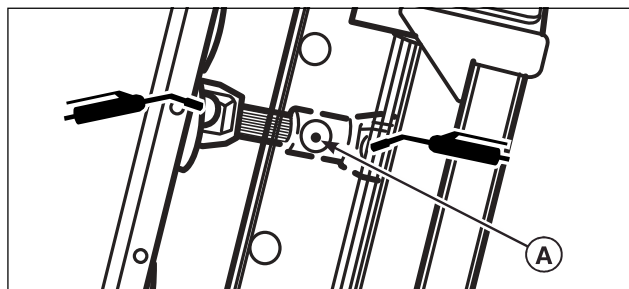

Figure 26. Drive Shaft (Bottom side of unit shown)
1. Position the drive shaft so that the plug (A, Figure 26) can be accessed from beneath the machine through the hole in the engine cradle.